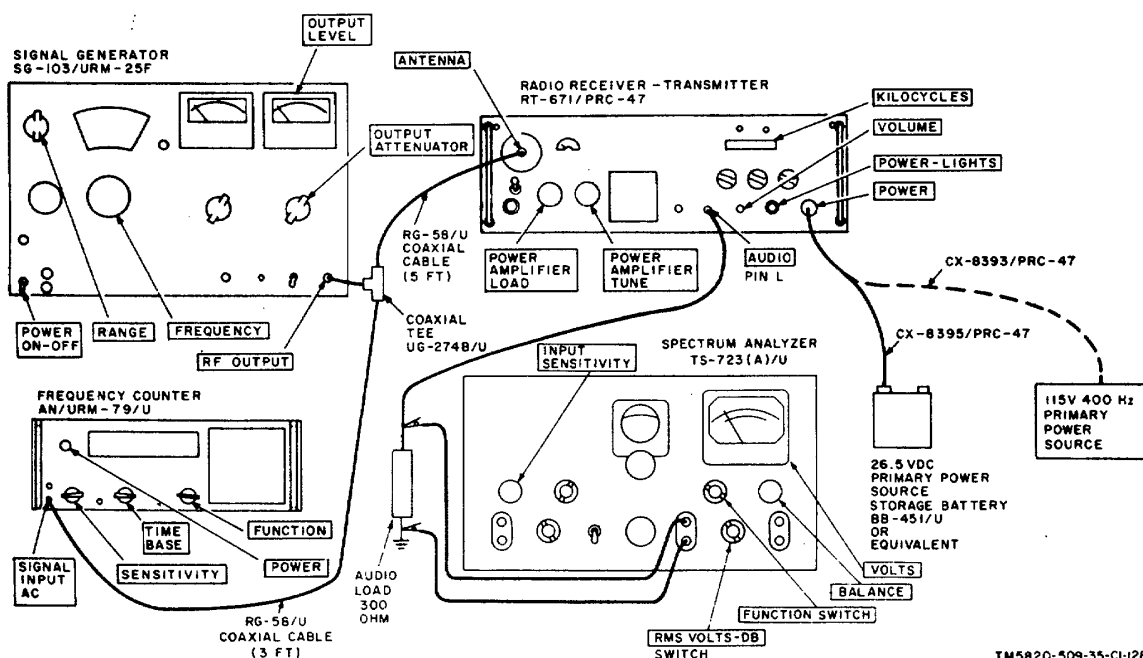

Figure 4-1. Receiver Sensitivity, AVC Selectivity, IF. Rejection, Image Rejection, and Volume Control Tests, Equipment Setup.
(fig. 4-1)
(1) Connect the test equipment to Radio Receiver-Transmitter RT-671/PRC-47 as shown in figure 4-1.
(2) Connect the 115-volt primary power source to the receiver-transmitter.
(3) Turn on the test equipment and place the POWER-LIGHTS switch of RT-671/PRC-47 to POWER ON. Permit the equipment to stabilize for at least 6 minutes before beginning the procedures shown in the chart below.
(1) Connect the test equipment to Radio Receiver-Transmitter RT-671/PRC47 as shown in figure 4-1.
(2) Connect the primary power source to the receiver-transmitter.
(3) Turn on the test equipment and place the POWER-LIGHTS switch of RT-671/PRC 47 to POWER ON. Permit the equipment to stabilize for at least 5 minutes before beginning the procedures shown in the chart below.
(3) Turn on the test equipment and place the POWER-LIGHTS switch of RT-671/PRC-47 to POWER ON. Permit the equipment to stabilize for at least 5 minutes before beginning the procedures shown in the chart below.
(3) Connect the primary power source to the receiver-transmitter.
(3) Turn on the test equipment and place the POWER-LIGHTS switch of RT-671/PRC 47 to POWER ON. Permit the equipment to stabilize at least 5 minutes before beginning the procedures shown in the chart below.
(fig 4-1)